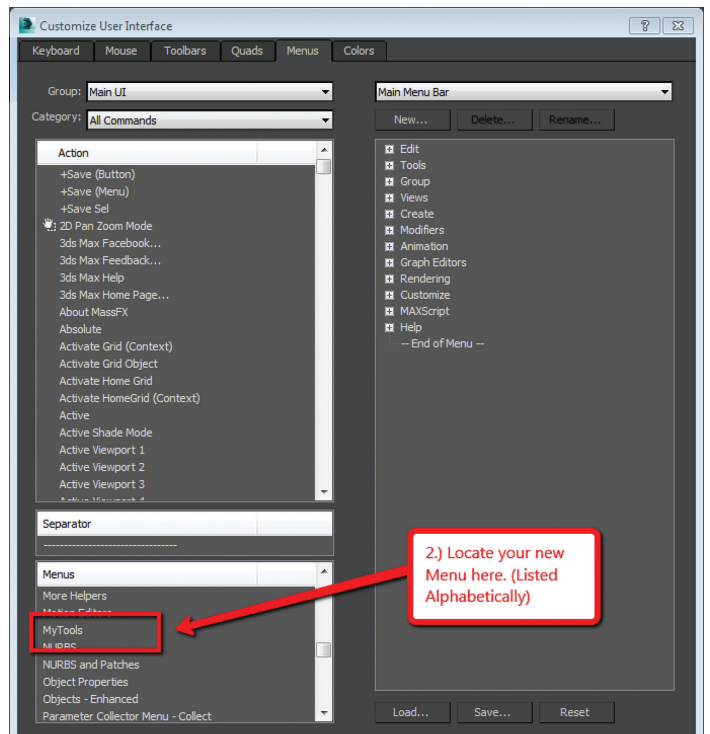

Figure 11: Location of new menu
- 2) Locate your new menu in the Menu window. It will be listed alphabetically (Figure 11).